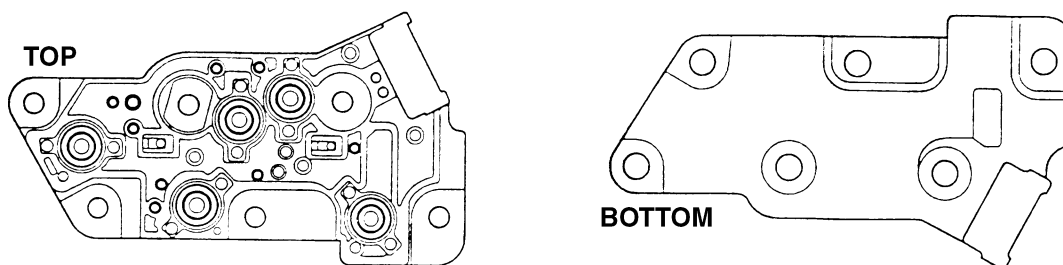

Figure 11.
Transmission Range (TR) Pressure Switch Assembly. This device is a set of five, normally open, pressure switches that detect fluid pressure within the valve body passages (Figure 11). The five pressure switches are connected to three signal circuits referred to as range signals A, B, and C.